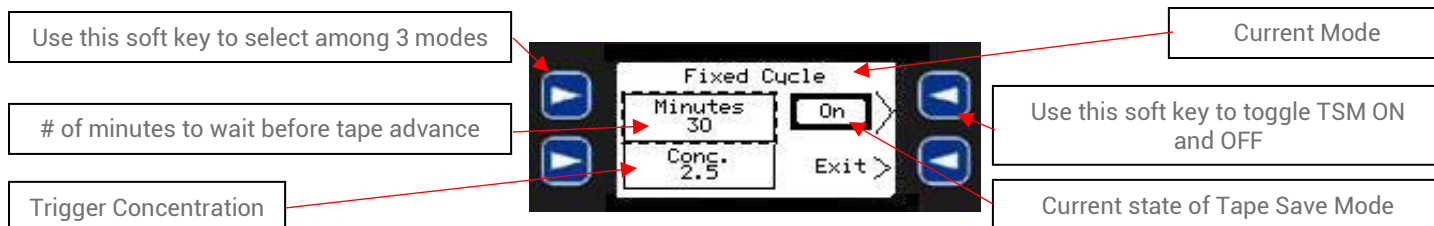
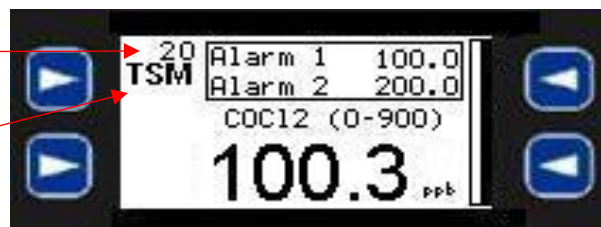

Figure 5.15
Figure 5.16
**WARNING** – When tape saver mode is active the actual gas concentration may not be displayed. Anytime the counter (in seconds – see figure 5.16) is counting down to zero NO ANALYSIS IS BEING PERFORMED and the concentration displayed may not be accurate.
Example using figures 5.15 and 5.16: When the values displayed in figure 5.15 are entered and TSM is enabled (ON), a gas concentration reading of 100.3 would start the TSM counter and freeze the concentration reading at 100.3 ppb. (see figure 5.16) Regardless of the amount of gas present during this time the counter will start at 300 seconds and countdown to 0 before advancing the tape and calculating a new gas concentration.